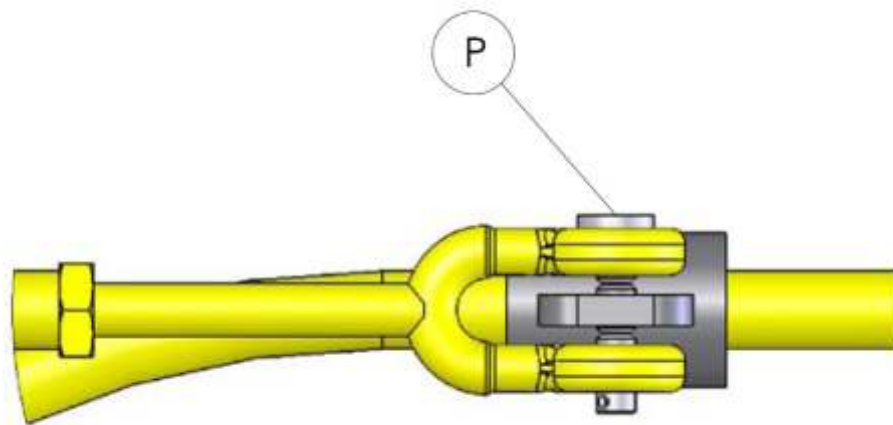

Figure 12
Every year or 36,000 cycles, the SHEAR PINS (P) Figure 12 should be removed and replaced in each of the turnbuckles.